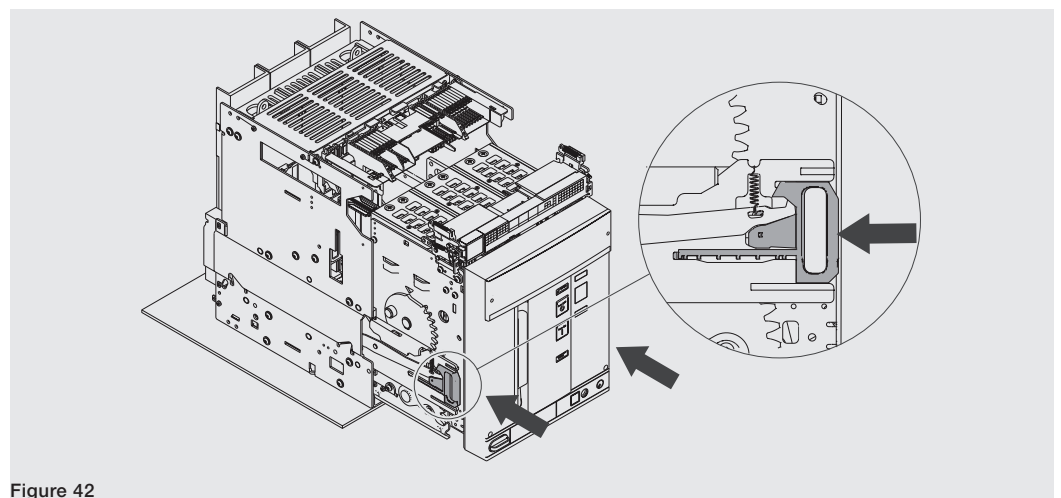

Figure 42
6. Grip the guide levers of the fixed part and push them until the moving part stops. See Figure 42.